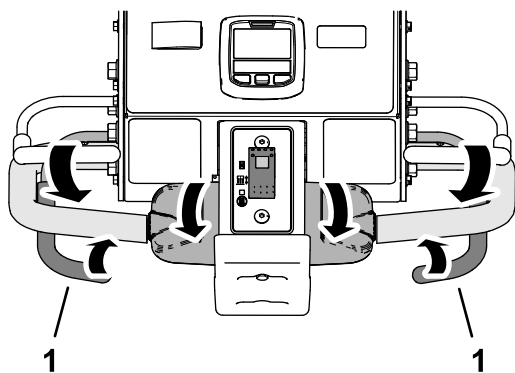

Figure 94
3. Close either the left or right the aerate bail (Figure 94).